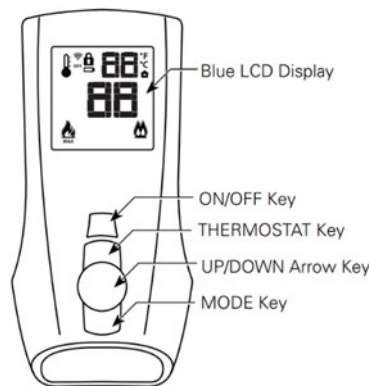

FIGURE 42
1. Insert the three (3) provided AAA batteries into the battery bay in the remote. Correctly align polarity (+/-).
3. Push the “ON” button on the remote (**Figure 42**). The control module will beep four (4) times to indicate acceptance of the remote’s command. The system is now synchronized.
With the system in the “OFF” position, press the Thermostat Key and the Mode Key at the same time (**Figure 42**). Look at the LCD screen on the Remote to verify that a C or F is visible to the right of the Room Temperature display (**Figure 44**).
The IPI selection is the intended setting for the appliance operation. If remote is in CPI mode, it must be returned to the IPI mode. To turn it back the remote needs to be OFF. With the system in the OFF position, press the Mode Key (**Figure 42**) once to index to the CPI mode icon. Pressing the DOWN Arrow Key will return to IPI. A single “beep” will confirm the reception of the command (**Figure 46**).